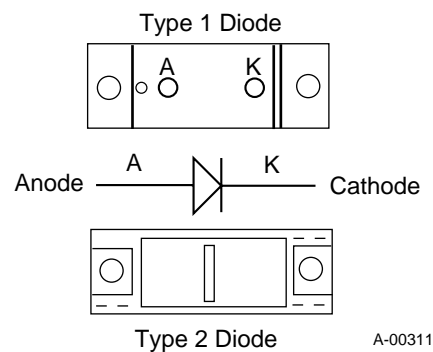

Figure 4-F Testing Output Diode
1. Locate output diodes in power supply to be tested. Refer to Figure 4-F for style of output diodes being tested.